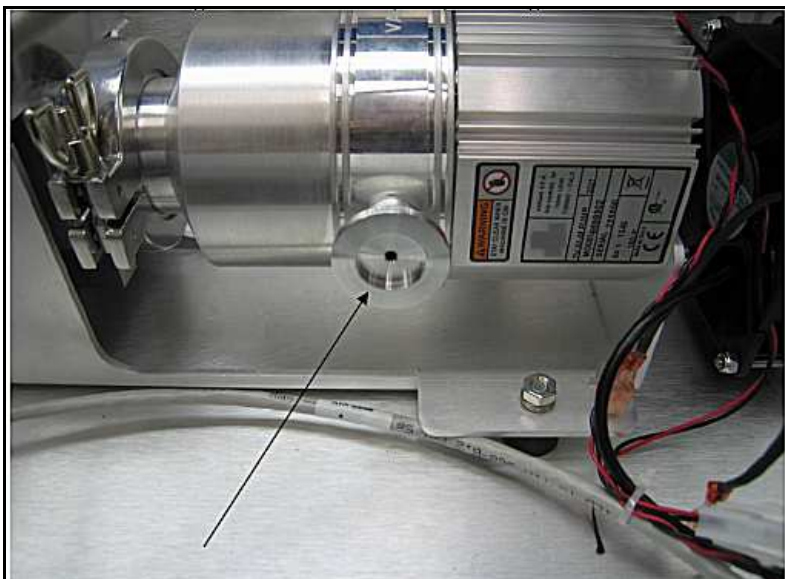

Figure 4: Turbo Pump Flange in Place
6. Verify the installation of the O-ring into the turbo pump flange. Then screw the turbo pump flange onto the turbo pump and tighten ¼ turn (Figure 4: Turbo Pump Flange in Place) using a 12 mm open end wrench. Do not over tighten the flange as the threads in the turbo body can be damaged.